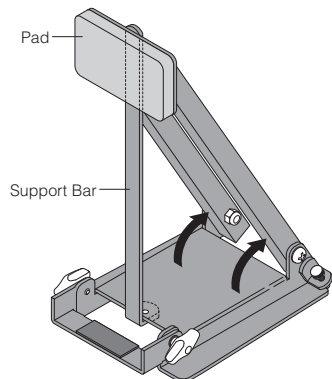

Fig.2
2. Turn the Base Assembly upright and raise the Pad to line the bolt holes in the Support Bar to the corresponding holes on the back of the Pad (Fig.2).